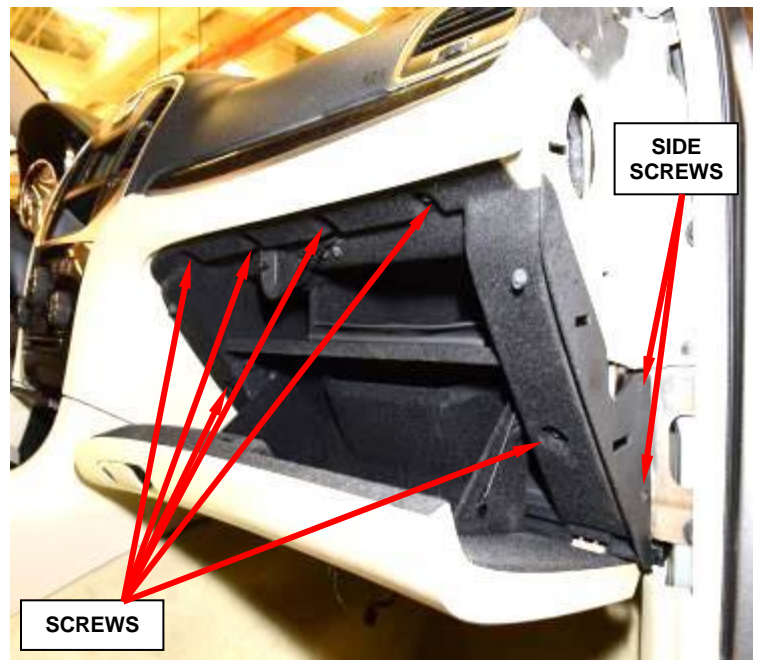

Figure 3 – Glove Box Compartment
- f. Remove the two side screws from the glove box compartment (Figure 3).
- g. Remove the six screws from the glove box compartment (Figure 3).